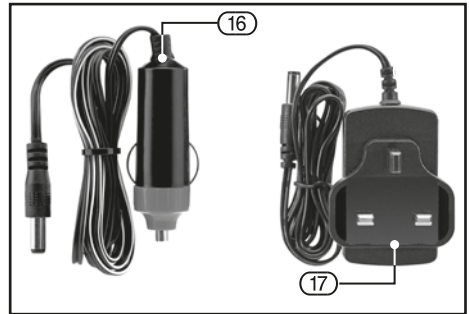

FIG.2
- Press the power ON button (6).
- If all three LED's of the battery charge level indicator (7) are lit, it means the power pack charge is fully charged.
8.2 RECHARGING THE POWER PACK (FIGS.2 – 3)